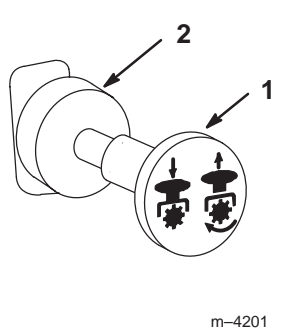

Figure 11
3. Move the PTO (power take off) switch to the **off** position (Fig. 11).